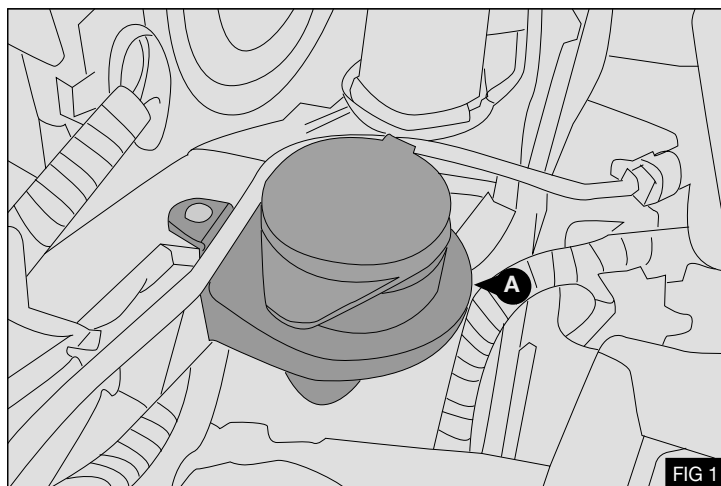

FIG 1
2. Remove the washer bottle filler bracket (A) from the slam panel to allow better access to the automatic belt tensioner – Fig 1